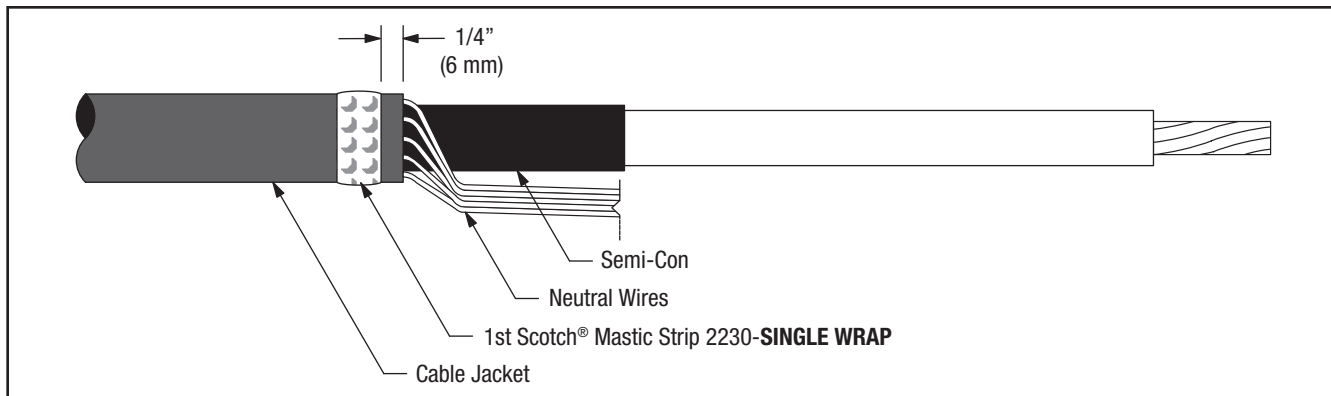

Figure 2
2.5 Select a Scotch® Mastic Strip 2230 from kit and remove white release liners. Using light tension, apply a **SINGLE WRAP** of mastic around the cable jacket 1/4" (6 mm) from cut edge (Figure 2). Cut off excess.